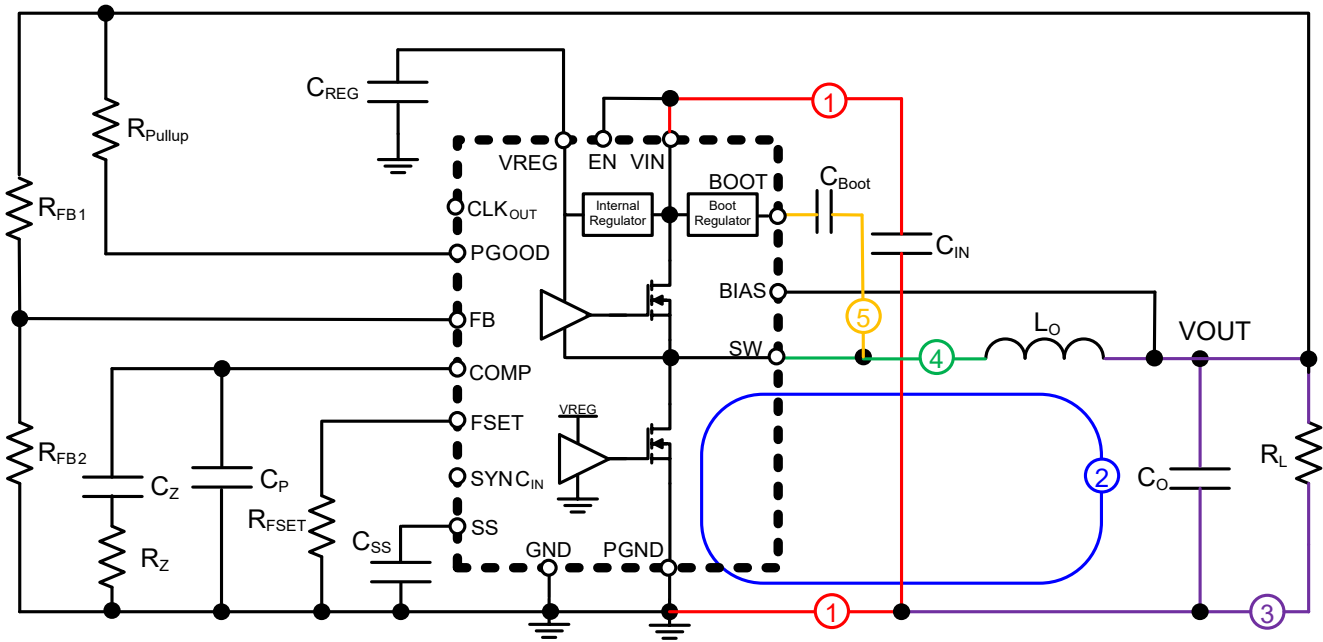

Figure 11: PCB Layout for Minimizing EM Emissions
1. Place the ceramic input capacitors as close as possible to the VIN pin and PGND pins to make the loop area minimal, and the traces of the input capacitors to VIN pin should be short and wide to minimize the inductance. This critical loop is shown as trace 1 in Figure 11. The bulk/electrolytic input capacitor can be located further away from VIN pin. The input capacitors and ARG81800 IC should be on the same side of the board with traces on the same layer.
3. When the high-side MOSFET is off, free-wheeling current flows from ground, through the synchronous low-side MOSFET, into the load via the output inductor, and back to ground. This loop should be minimized and have relatively wide traces. This loop is shown as trace 2 in Figure 11.
4. Place the output capacitors relatively close to the output inductor (L_O) and the ARG81800. Ideally, the output capacitors, output inductor and the ARG81800 should be on the same layer. Connect the output inductor and the output capacitors with a fairly wide trace. The output capacitors must use a ground plane to make a very low-inductance connection to the GND. These critical connections are shown as trace 3 in Figure 11.
5. Place the output inductor (L_O) as close as possible to the SW pin with short and wide traces. This critical trace is shown as trace 4 in Figure 11. The voltage at SW node transitions from 0 V to V_{IN} with a high dv/dt rate. This node is the root cause of many noise issues. It is suggested to minimize the SW copper area to minimize the coupling capacitance between SW node and other noise-sensitive nodes; however, the SW node area cannot be too small in order to conduct high current. A ground copper area can be placed underneath the SW node to provide additional shielding. Also, noise sensitive analog signals (like FB, COMP) should not be routed near the SW polygon.
10. Place the bootstrap capacitor (C_{BOOT}) near the BOOT pin and keep the routing from this capacitor to the SW polygon as short as possible. This critical trace is shown as trace 5 in Figure 11.